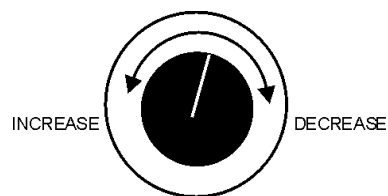

**Figure 43. Frequency Meter (Hz)**
9. The generator's frequency meter (Figure 43) displays the 60 cycle output frequency in HERTZ.